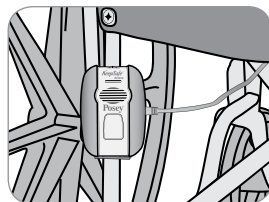

Fig. 18
3. Slide the alarm onto the bracket from the top down. The alarm should rest on the bottom of the "L" (fig. 18).